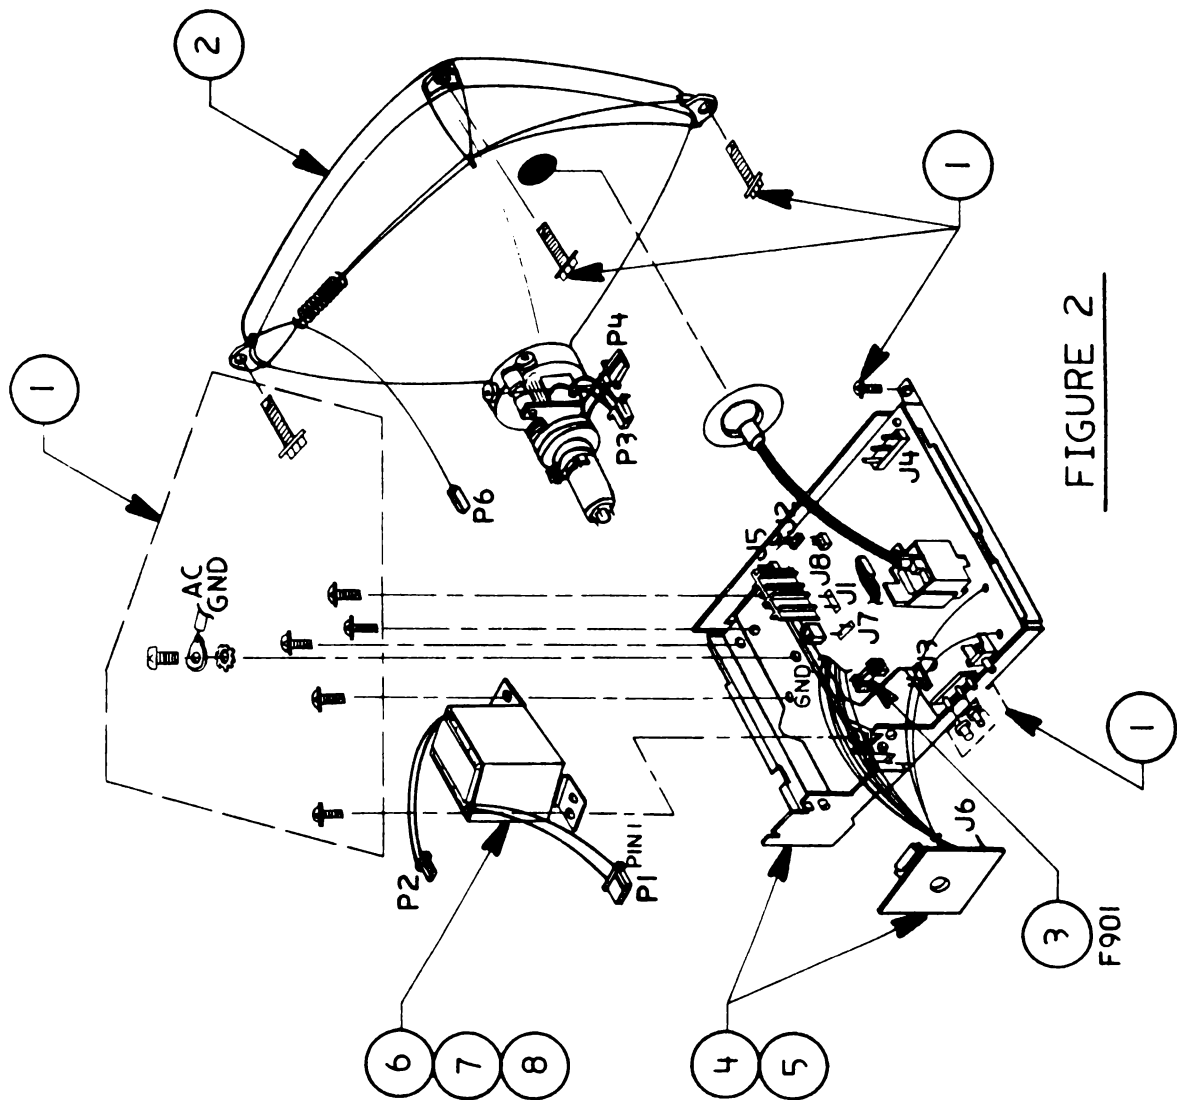

FIGURE 2
- 5.5 CRT, Main Logic Board, and Transformer (Figure 2)
□ MONOCHROME MONITOR – CRT, MAIN LOGIC BOARD, AND TRANSFORMER (Figure 2)